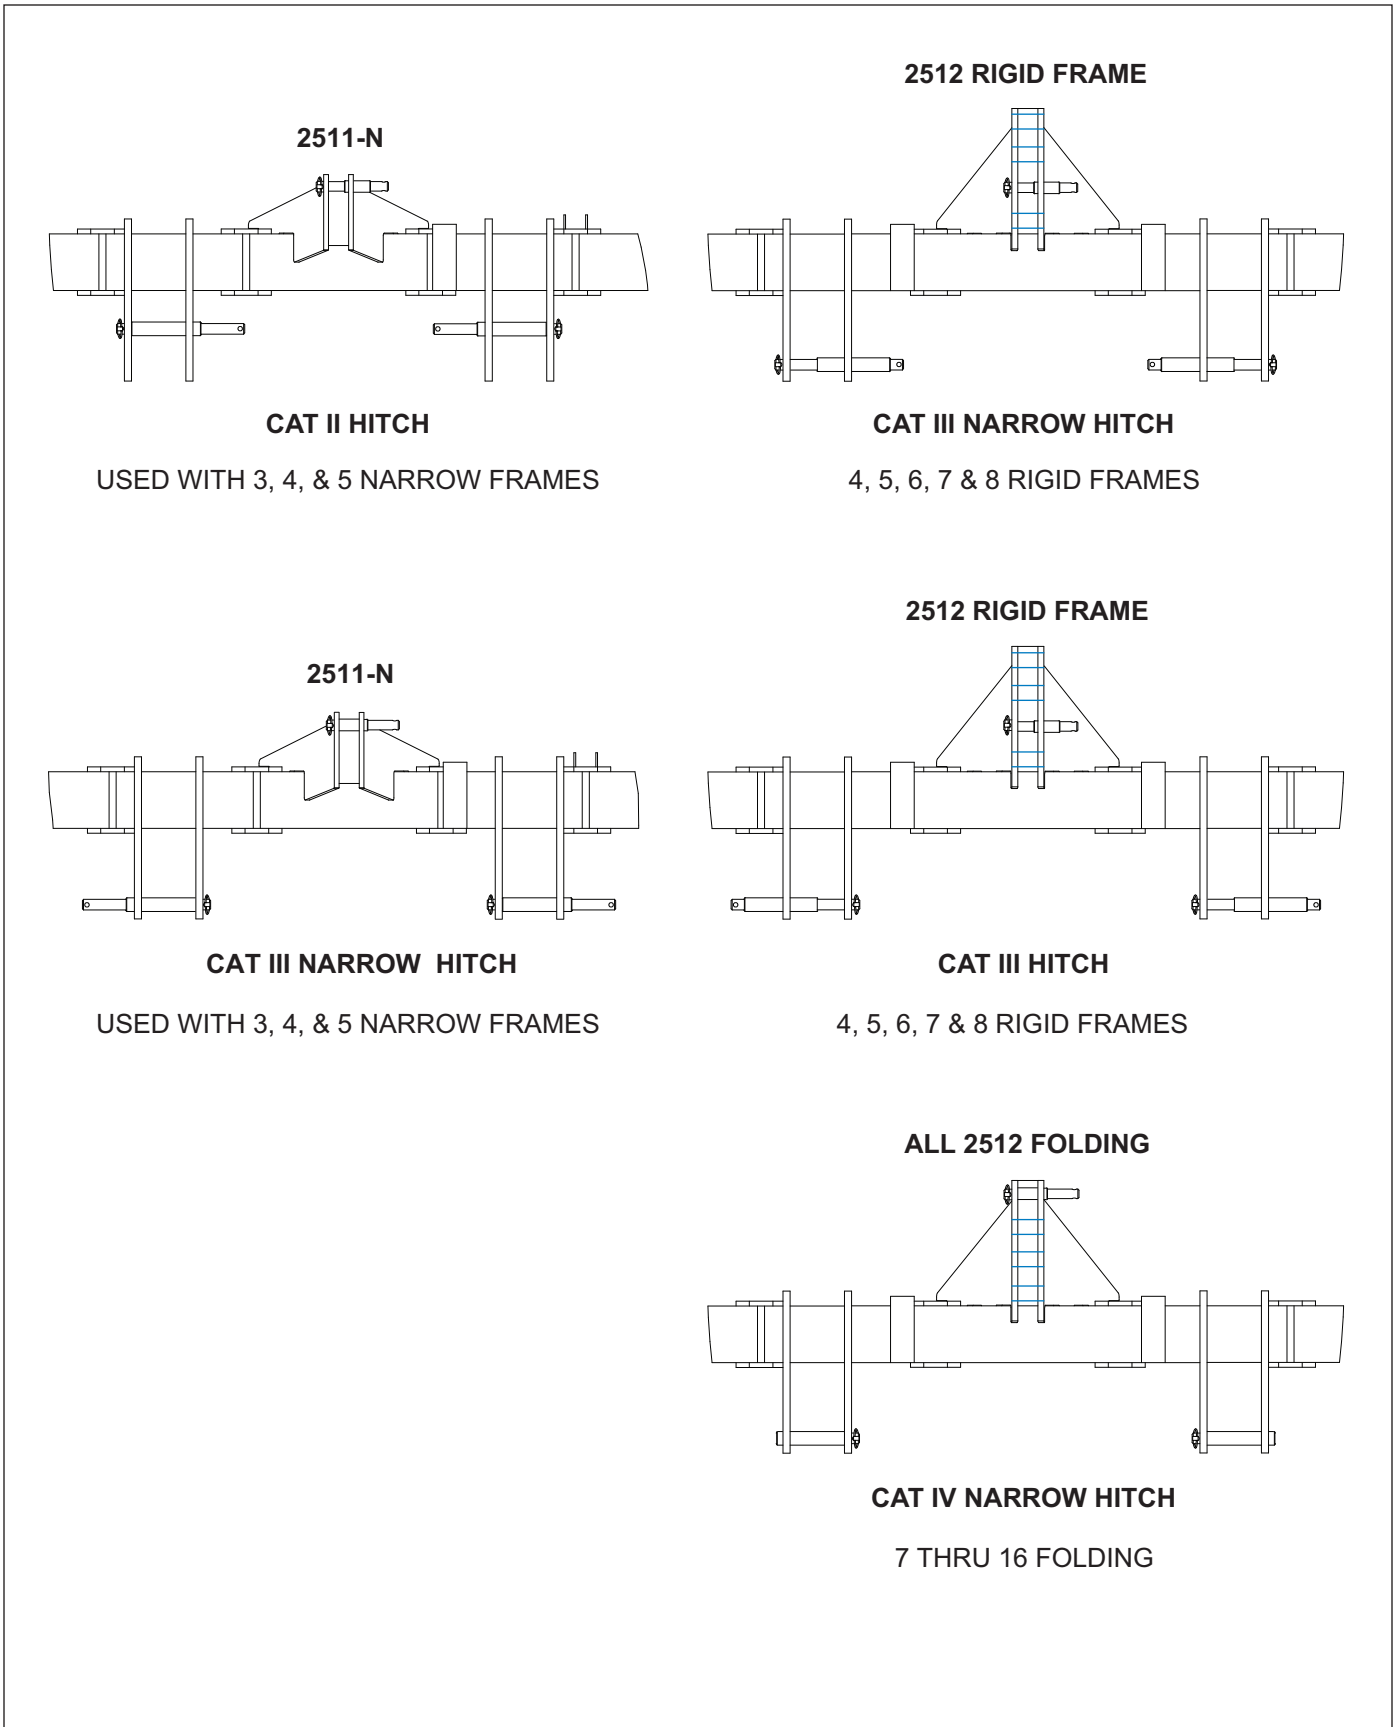

Figure 4-1: 3 Point Hitch Setup
- a. Attach lower lift arms of the tractor to the Zone Commander utilizing appropriate pins. 2512 Rigid Model come with either Category IIIN, CAT III, and CAT IVN. 2512 Folding Models come with CAT IVN ONLY. *(See Figure 4-1)*